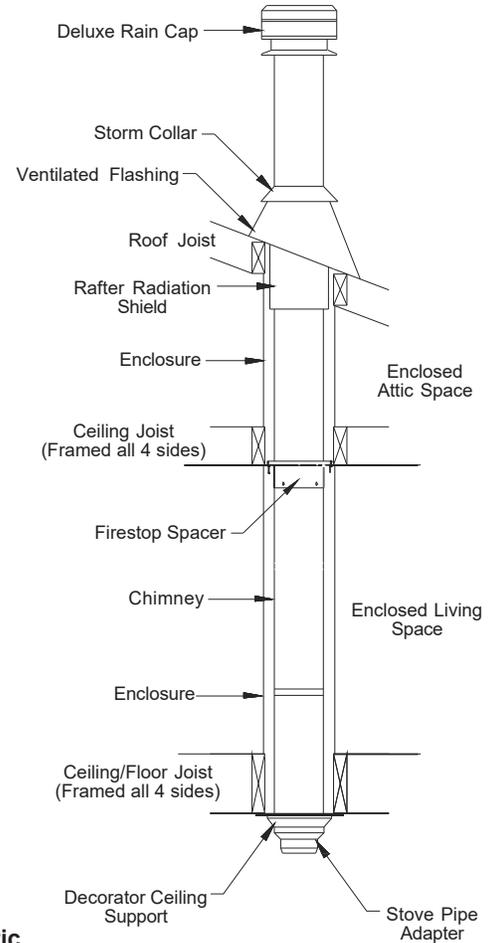

Figure 7 - Enclosed attic space with Firestop Spacer and Rafter Radiation Shield
At each ceiling level where the chimney passes through the dwelling, install a Firestop Spacer (FS), see Figures 2 and 6. It is also required when the chimney in the attic space will be enclosed (see Figure 7). When installing the AAIS immediately above the Decorator Ceiling Support the Firestop Spacer is not required (see Figure 3).